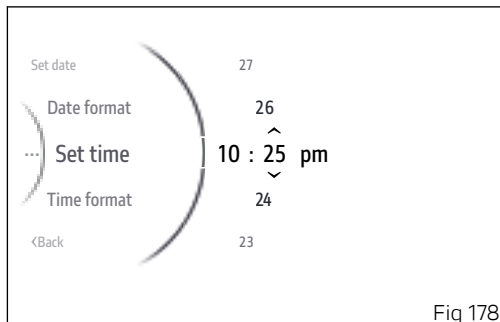

Fig 178
The arrows and available values appear for the number of minutes (Fig 178). Use buttons (1) and (2) to scroll and select the desired value. Press ENTER (3) to confirm and move on to the AM/PM selection.